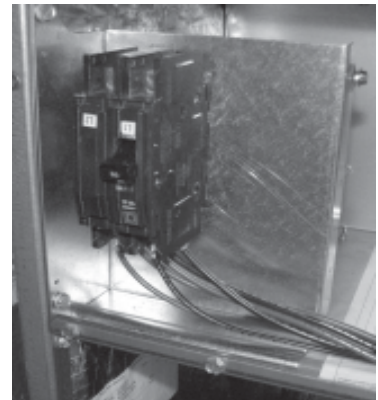

FIG. 1 Breaker Bracket installation.
8. **AIR HANDLERS:** Mount the circuit breaker mounting bracket in the upper LEFT side corner of the cabinet. Insert (4) mounting screws through the control panel flange and into the cabinet left corner post (see fig 1).